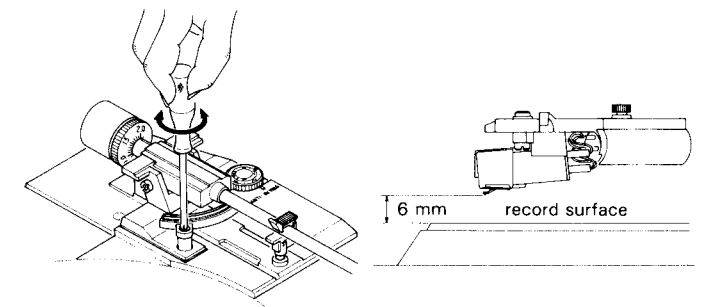

Fig. 29
6-(4) Tonearm Elevator-height Adjustment (Fig. 29)